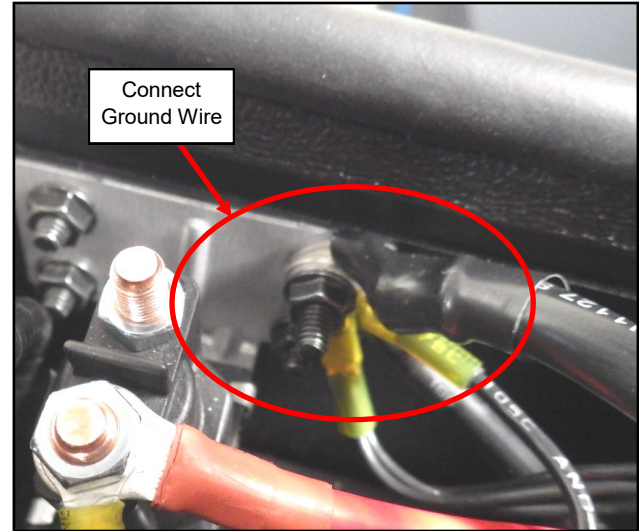

Fig. 1.4 (Connect ground to A/C Unit)
- 1.4 Remove the nut securing the ground wires to the solenoid mounting plate. Next, install the A/C Power Supply Wire Harness' black ground wire onto the bolt, re-install the nut and then tighten as shown in fig. 1.4. Be sure that all original wires remain installed on the ground fastener.